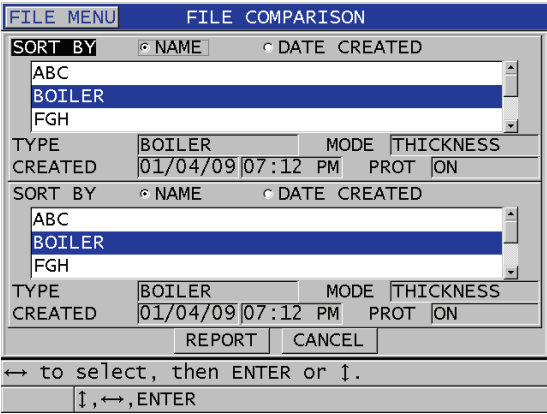

Figure 11-34 The FILE COMPARISON report screen
6. In the **FILE COMPARISON** screen (see Figure 11-34 on page 198):